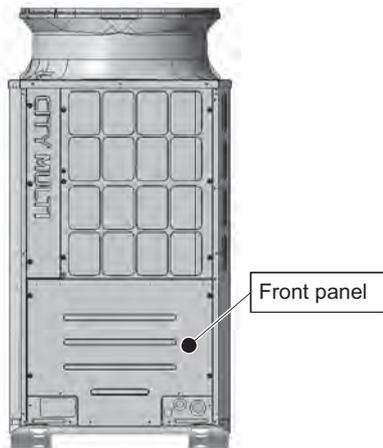

Figure 1
Unscrew the two screws indicated with arrows in Figure 1-a, and pull up the duct to remove it.
(Figure 1-b shows the unit after the duct was removed.)
[Figure 1]
- (1) Remove the front panel from the unit by unscrewing the eight screws. (See Figure 1.)